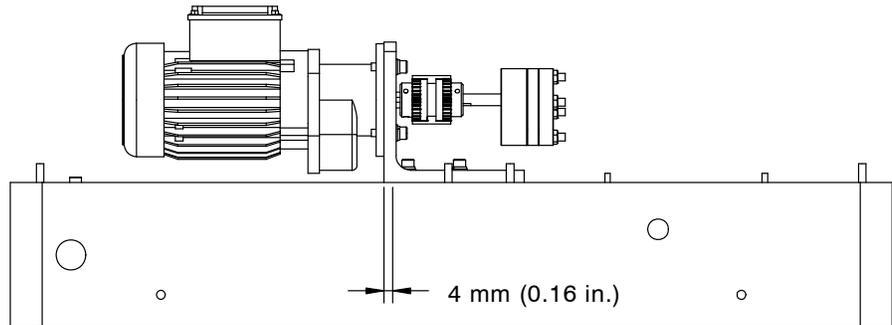

Figure 5-3 Moving the motor assembly back 4 mm (0.16 in.)
9. Ensure that the coupling sleeve cannot move, then slide the motor assembly back 4 mm (0.16 in.), as indicated in Figure 5-3.